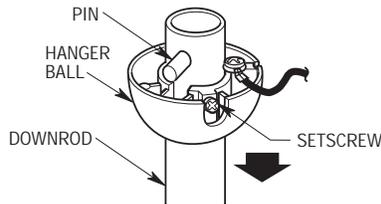

Figure 12
- 8. Remove the hanger ball from the downrod by loosening the setscrews in the hanger ball until the ball falls freely down the downrod (Figure 12). Remove the pin from the downrod, then remove the hanger ball. Retain the pin and hanger ball for reinstallation in Step 16.
It is critical that the clevis pin in the motor coupling is properly installed and the setscrew securely tightened. Failure to verify that the pin and setscrew are properly installed (as shown in Figure 12) could result in the fan falling.